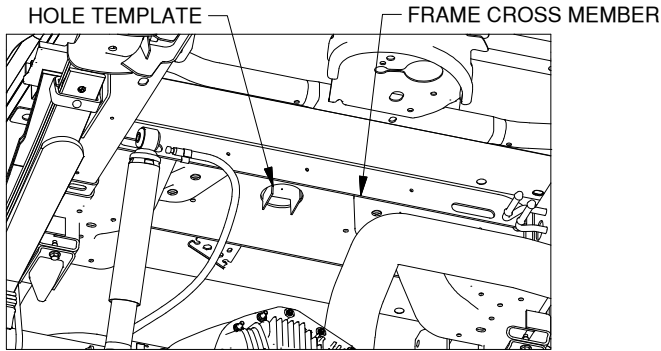

Figure A5: View under bed looking towards the cab.
8. **Mark the location of the 3-1/2" hole.** Insert the hole template into the center hole of the frame cross member as shown in Figure A5. Push the template upward until it is flush against the bottom of the bed floor. Make a mark on the truck bed floor through the hole in the hole template using a pencil, marker, or other tool. Once the center point is marked, remove the template. Use a center punch to place an indentation in the truck bed at the center of the mark. Using a drill and a 1/4" bit, drill a pilot hole through the bed in this location.